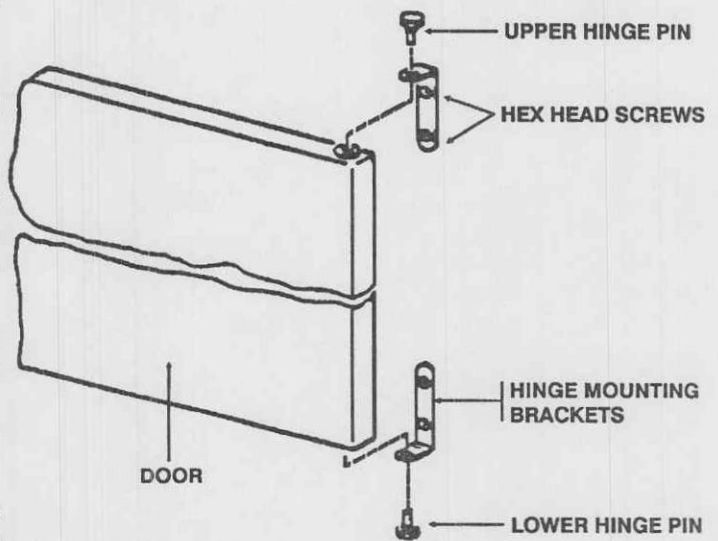
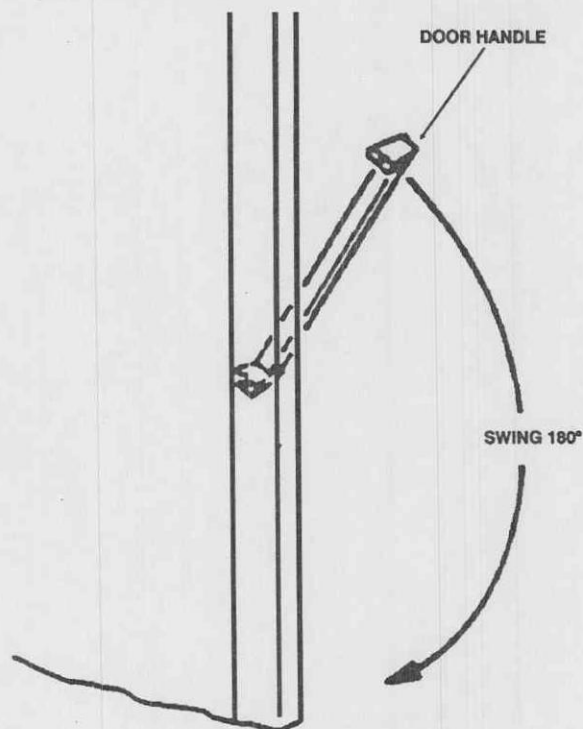

Figure 3-12. Door hinges.
Figure 3-15. Door handle.
c. *Door swing conversion (fig 3-12 through fig 3-15).* The warming cabinet door may be converted from right hand to left hand or left hand to right hand swing. Conversion procedures are as follows:
(1) Remove the upper and lower hinge pins while holding the door closed against the cabinet. Remove the door and set it aside.
(2) Remove the two hex head screws from both the upper and lower hinge mounting brackets.
(3) Remove the two sets of screws, trim washers, and stiffeners from the opposite side of the warming cabinet and reinstall them in the holes where the upper and lower hinge mounting brackets were just removed.
(4) In turn, reinstall the hinge mounting brackets on the opposite side using the two screws previously removed from each bracket.
(5) Remove the three screws and the door striker plate assembly.
(6) Remove the three washer-head screws from the identical mounting position of the opposite side panel and reinstall them where the door striker plate assembly was removed in the preceding step.